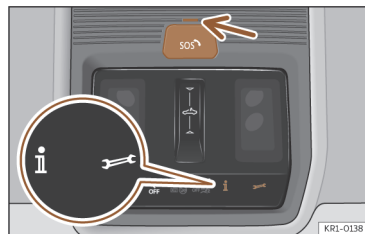

Fig. 49 On the roof console: controls for voice services.
The following voice services can be run by pressing the buttons **i**, **☞** and **SOS** >>> **Fig. 49**:
There is a control lamp on the control >>> **Fig. 49** (arrow). It shows the following statuses:
1. Briefly press the button cover  and open the cover >>> Fig. 49.
Depending on the equipment and the country, the vehicle may be fitted with an emergency call system. In some countries, the free public emergency call system is activated by default. The control element is located on the roof console >>> **Fig. 49.**
1. Briefly press the button cover  and open the cover >>> **Fig. 49.**